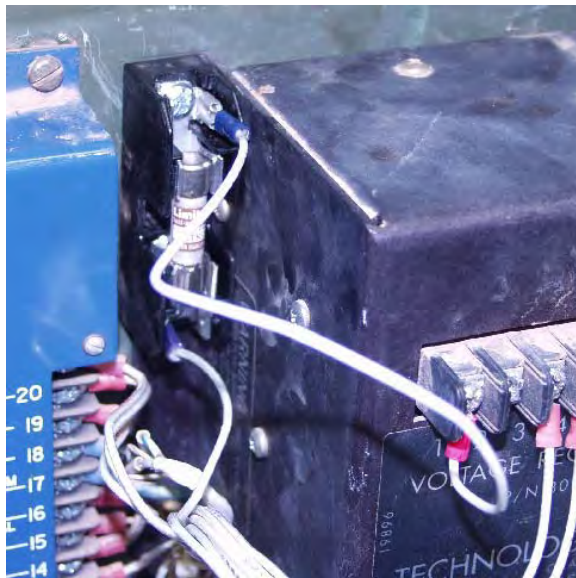

Figure 4. Top Wire Connection
9. Install the female quick disconnect end of the wire provided on the male quick disconnect terminal located at the top of the fuse holder. Connect the spade terminal end of the wire provided to terminal 1 of the voltage regulator (A1). (Figure 4.)